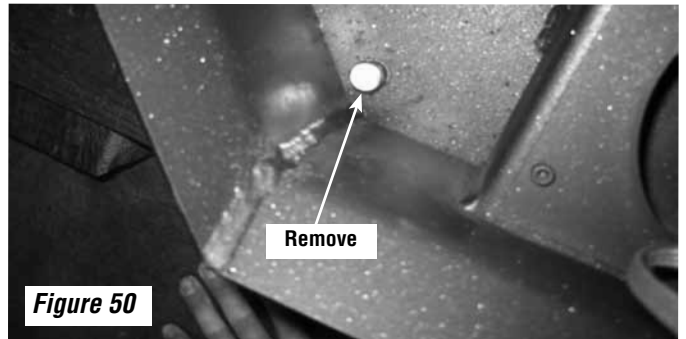
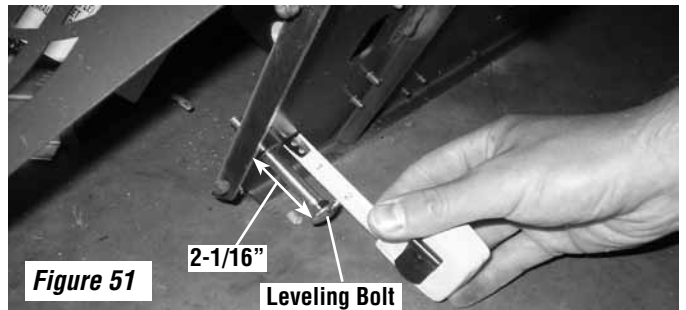

Figure 50
Figure 51
2. Install your four leveling bolts (provided with the appliance). Open the main front door and remove the two bolts in the front right and front left of the bottom of the fire box see Figure 50. **Note:** Placing a level on the insert top is recommended to ensure your insert is level. Again with the insert very cautiously tilted back, insert your four leveling bolts approximately 2-1/16" (52 mm) into the holes provided at the bottom of the insert (see Figure 51).